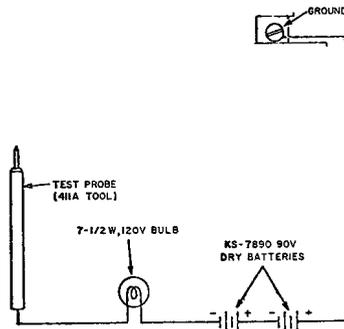

FIGURE 7. Circuit For Testing Protector Unit
5.02 Connect the following components as shown in Figure 7 to perform the protector unit test: